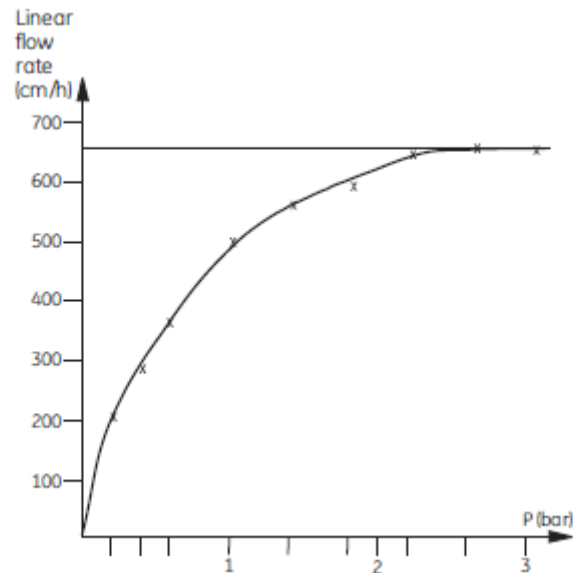

Fig.1. A typical pressure/flow rate curves for **Q XPure Agarose Resin**
**Q XPure Agarose Resin** is part of Ion exchange Resin which is widely used in biomedical and bioengineering for separation and purification of proteins, nucleic acids and polypeptides. The base matrix **Q XPure Agarose Resin** is 6% highly cross-linked agarose which gives the ion exchangers high chemical and physical stability. They are developed and supported for process scale chromatography. The characteristics such as capacity, elution behavior and pressure/flow rate are unaffected by the solutions commonly used in process chromatography and cleaning procedures, for details see table under each respective ion exchanger. Fig.1 is the pressure/flow rate curves of the matrix.